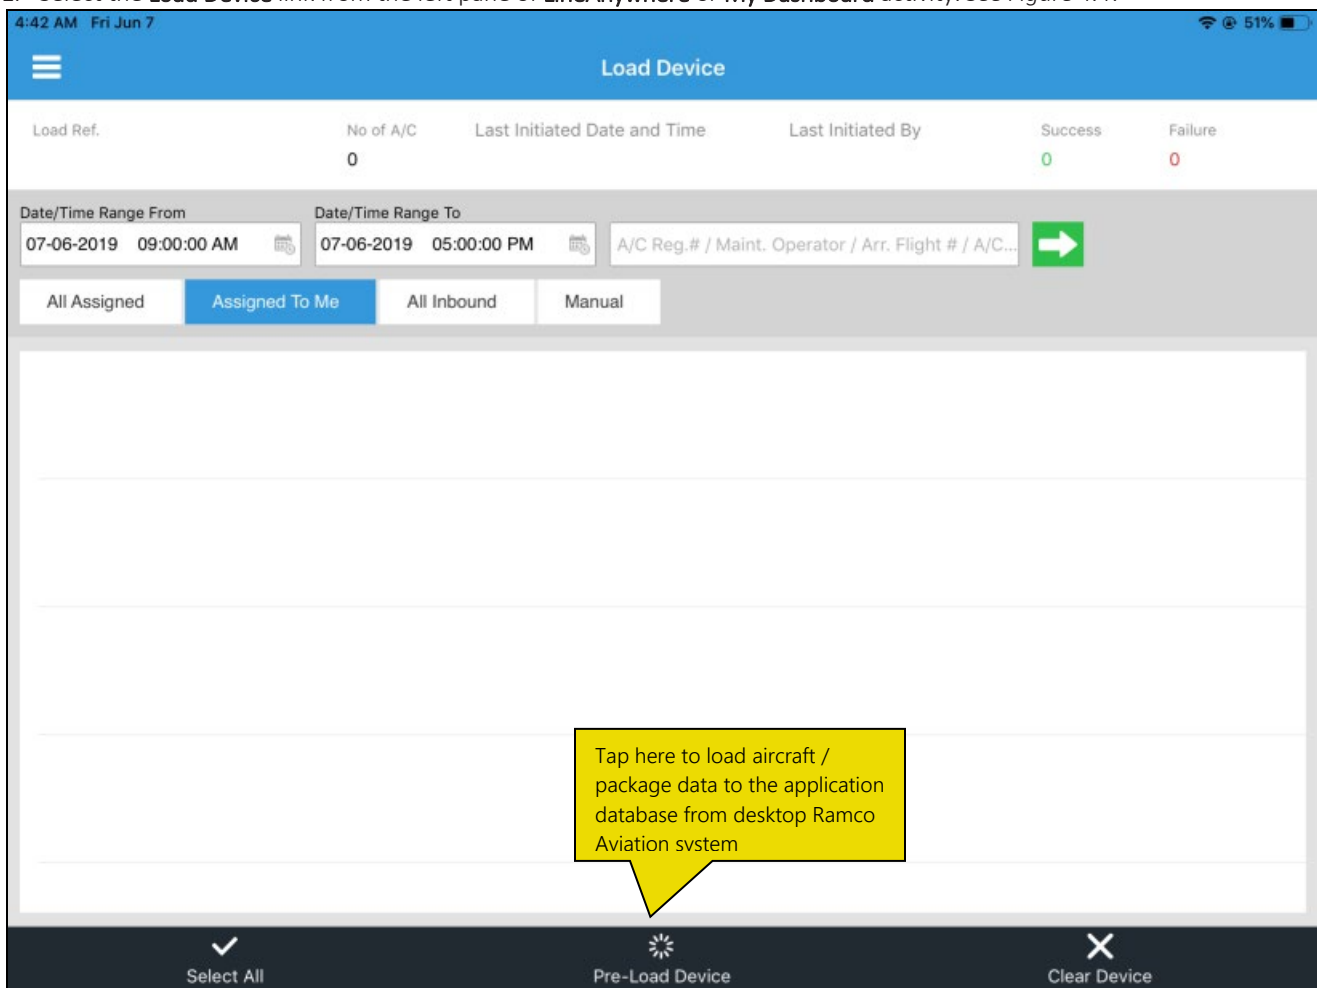

Figure 4.4: The Load Device Page
1. Select the **Load Device** link from the left pane of **LineAnywhere** or **My Dashboard** activity. See Figure 4.4.